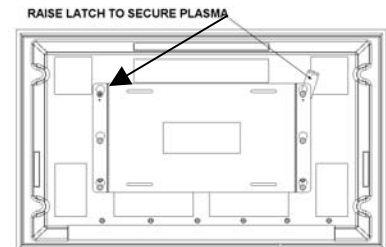

Figure 5
5. Raise safety latches to secure plasma (See Figure 5).